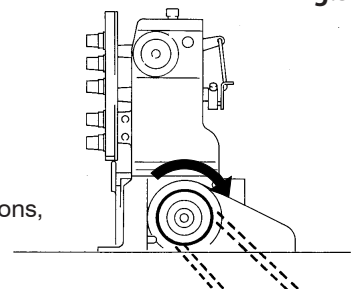

Fig.5
3. When the machine is used for the first time, turn on the power and then check the rotating direction of the machine pulley. The machine pulley should turn clockwise as seen from the machine pulley. (Figs. 5, 6)